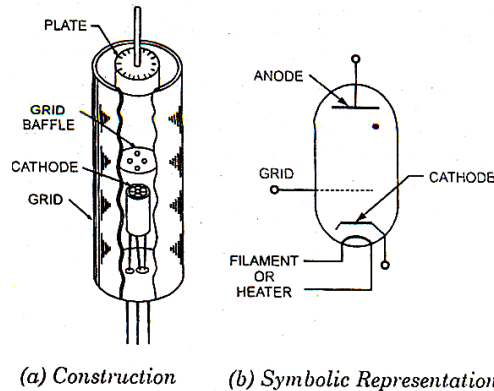

Fig. 45.3
**Q.45.iii) Thyatron:** The trade name of a hot-cathode gas triode is thyatron. A thyatron consists of three electrodes, namely cathode, anode and control grid. These electrodes are enclosed in a glass envelope containing some inert gas at low pressure. The cut-away view and schematic symbol of the tube are shown in fig.45.3(a) and 45.3(b). It consists of a metal cylinder surrounding the cathode with a perforated disc known as grid baffle near the center. Thus, the control grid acts as an electrostatic shield between cathode and anode except for the holes in the grid baffles.